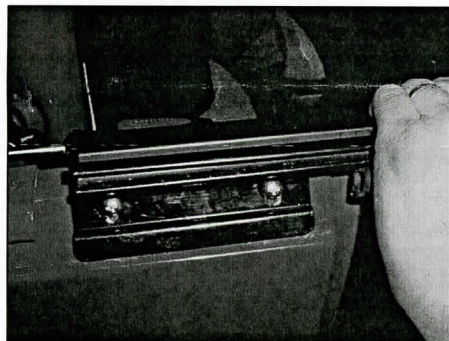

Figure 19
18. Insert Tailgate Bar into the top of the Tailgate Brackets (Figure 19).